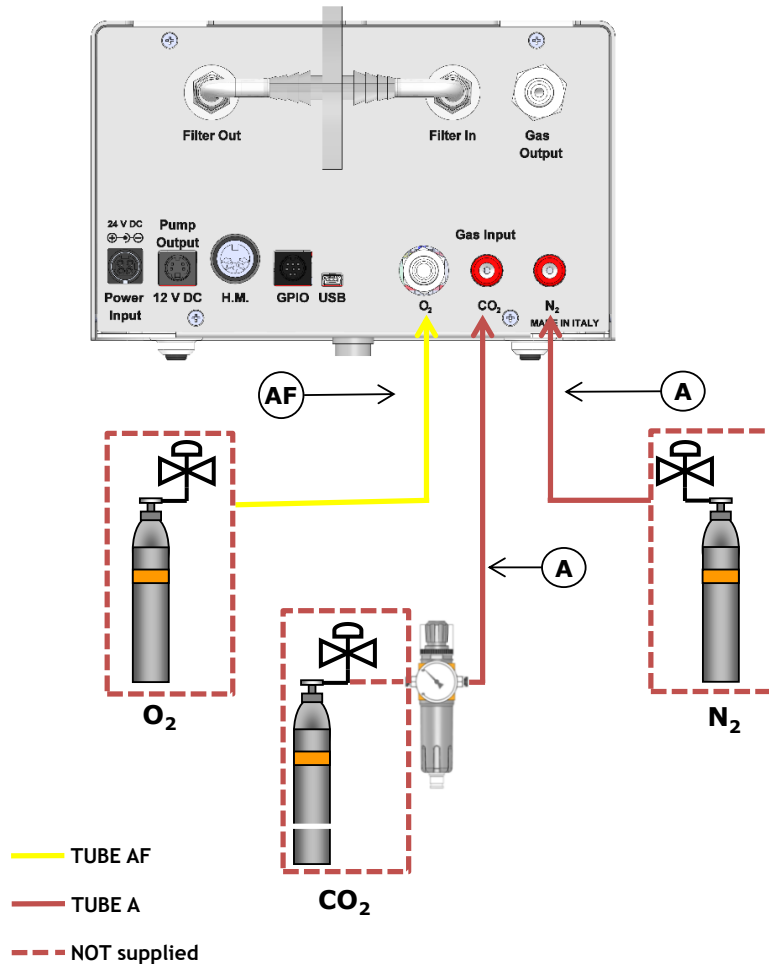

Figure 12. CO₂, N₂ and O₂ tanks connections to the back panel of CO₂-O₂-UNIT-BL [0-20; 1-95].
- Figure 12 shows the connections between the CO₂, N₂ and O₂ tanks and the respective connectors on the rear panel of CO₂-O₂-UNIT-BL [0-20; 1-95] when you work in CO₂/O₂/N₂ mode.